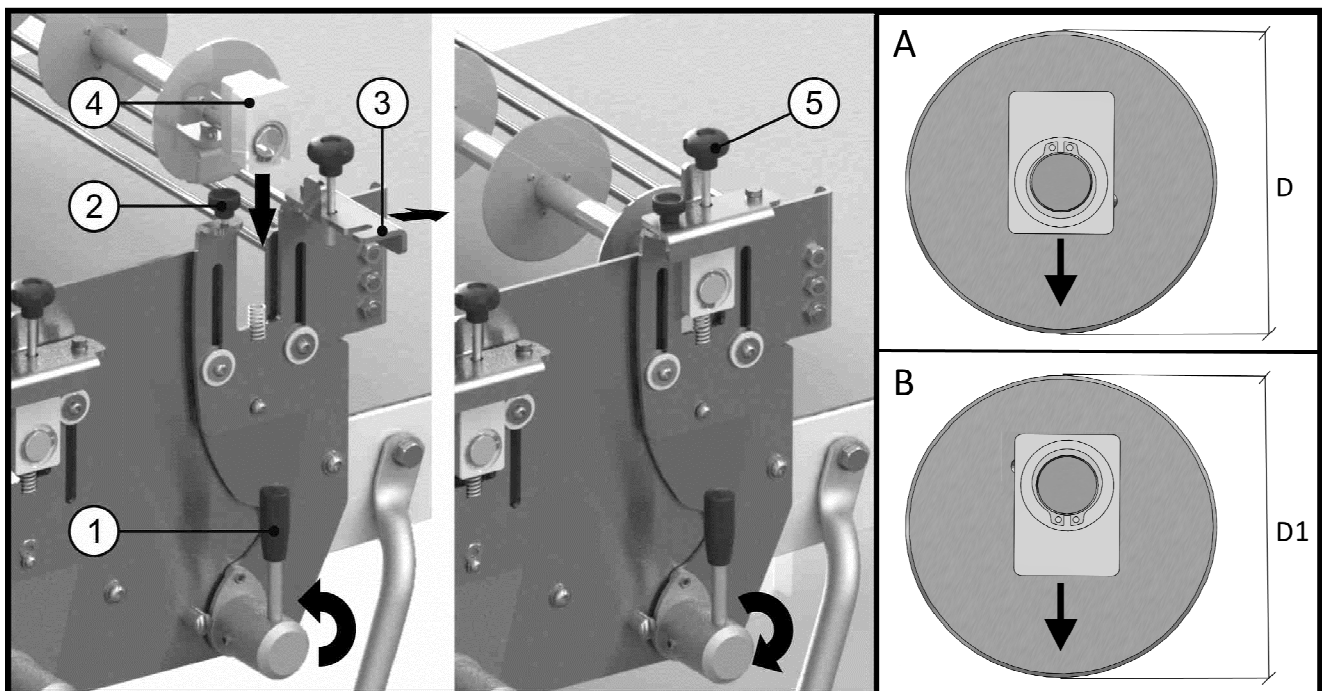

Figure 13
Follow these instructions to assemble/disassemble the knives (Figure 13):
- Loosen handwheel ref. 2 and rotate the knife quick release system ref. 3
- Grab the knife by the nylon side guides ref. 4 using both hands and insert the guides inside the appropriate slots on the shoulders. Pay attention to the direction of the side guides: for knives having a diameter lower than 115 mm (D), insert the guides as illustrated in figure 13 pos. A. For knives having a diameter bigger than 115 mm (D1), insert the guide sas illustrated in Figure 13 Pos. B
- Close the knife quick release system ref. 3 and fasten it using handwheel ref. 2
- Rotate lever ref. 1 clockwise and take the knife back to its working position
- Use handwheel ref. 5 to adjust the knife cutting pressure on both sides of the table so as to obtain the required cut. **ATTENTION!** Excessive knife pressure may damage the belt